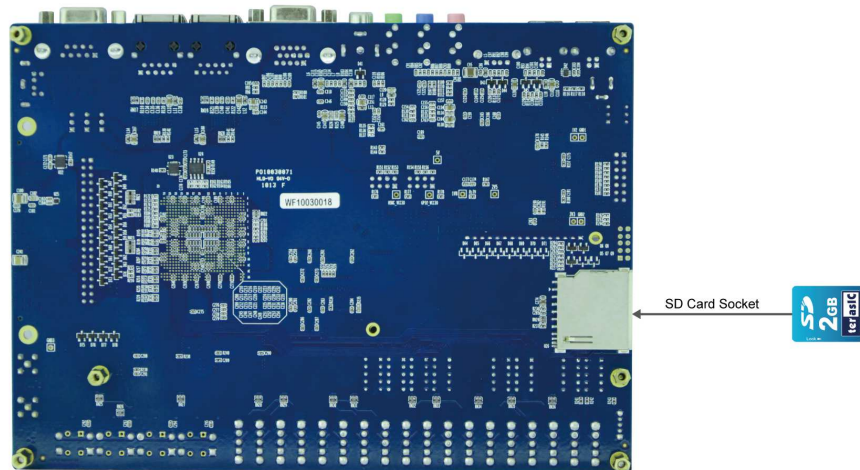

Figure 6-11 Insert SD Card for the SD Card Demonstration
- Insert the SD Card into the SD Card socket of DE2-115, as shown in **Figure 6-11**.